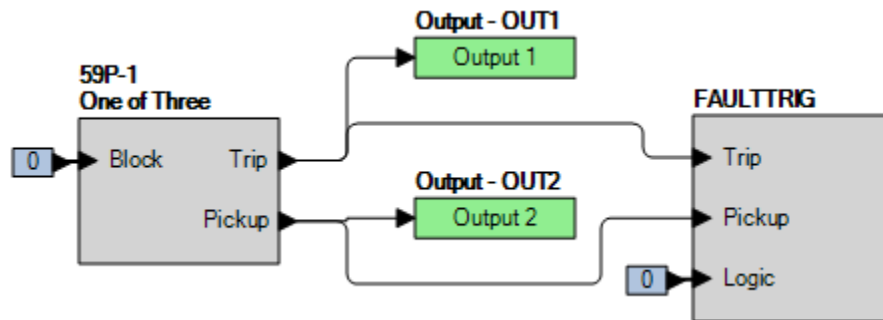

Figure 68-1. BESTlogicPi.us Settings
Step 2: Use BESTCOMSPi.us to configure the BESTlogicPi.us programmable logic shown in Figure 68-1.
Step 4: Prepare to monitor the 59P-1 function operation. Operation can be verified by monitoring OUT2 (see Figure 68-1).